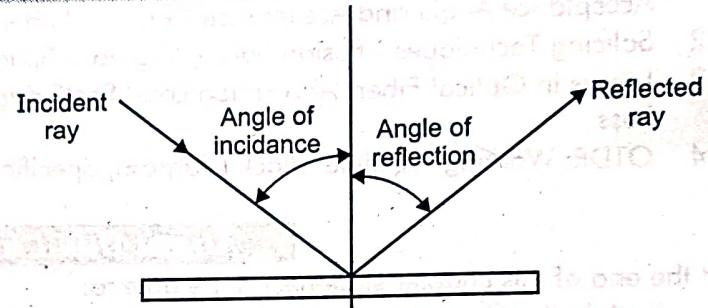

Fig. 2.1: Reflection
- These reflections shown in Fig. 2.1 are the result of an incident ray and the reflected ray.